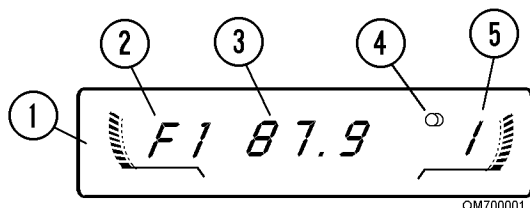

FIGURE 70-2. FM STATION SELECTION
2. Press BAND (9) to select a choice of three available FM bands, F1, F2 and F3 or the AM band. The selected band (2, Figure 70-2) will be displayed in the Display Window (1).
3. To manually tune a frequency, tap the arrow buttons (16, Figure 70-1). The frequencies will move up or down step by step. The selected frequency (3, Figure 70-2) will be displayed in the Display Window. If the broadcast is stereo, indicator (4) will appear.
4. To use the SEEK function, press and hold either arrow button (16) for about one second and release.
- b. The number you have pressed will flash in the preset number indicator (5, Figure 70-2) and then remain lit.